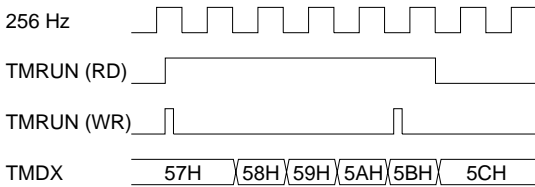

Fig. 6.2.1 Timing chart at RUN/STOP control
- (1) The clock timer actually enters into RUN or STOP status at the falling edge of the 256 Hz signal after writing to the TMRUN register. Consequently, when "0" is written to TMRUN, the timer stops after counting once more (+1). TMRUN is read as "1" until the timer actually stops. Figure 6.2.1 shows the timing chart at the RUN/STOP control.